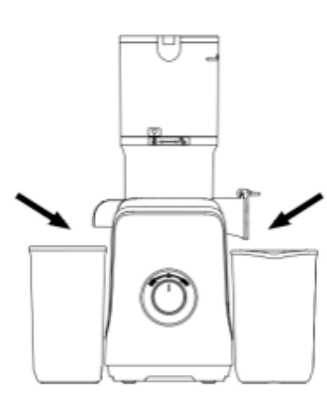

Fig 5
- Place the juice container and pulp container under their respective spouts. (Fig 5)